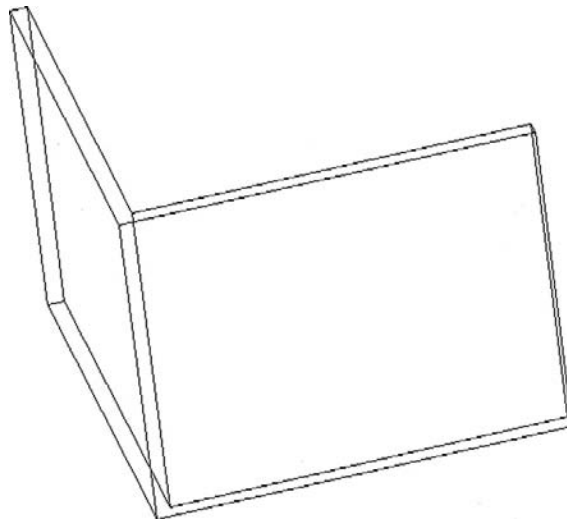

FIGURE 24.12
Step 2. Use the union command to fuse the walls together. Figure 24.12 shows another, slightly rotated, view of the walls in wireframe after the application of union. Notice where they intersect; they are clearly in one piece, not two separate panels.